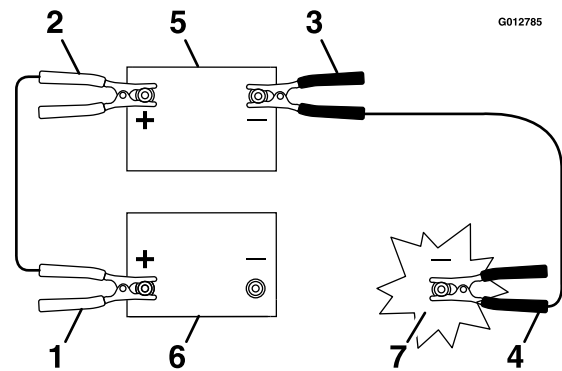

Figure 42
3. Connect the positive (+) cable to the positive (+) terminal of the discharged battery that is wired to the starter or solenoid as shown in Figure 42.